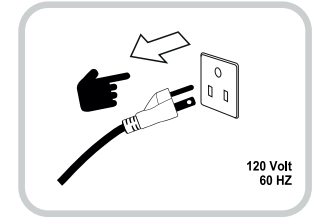

Fig. 4
3. Disconnect the power supply. (Fig. 4).